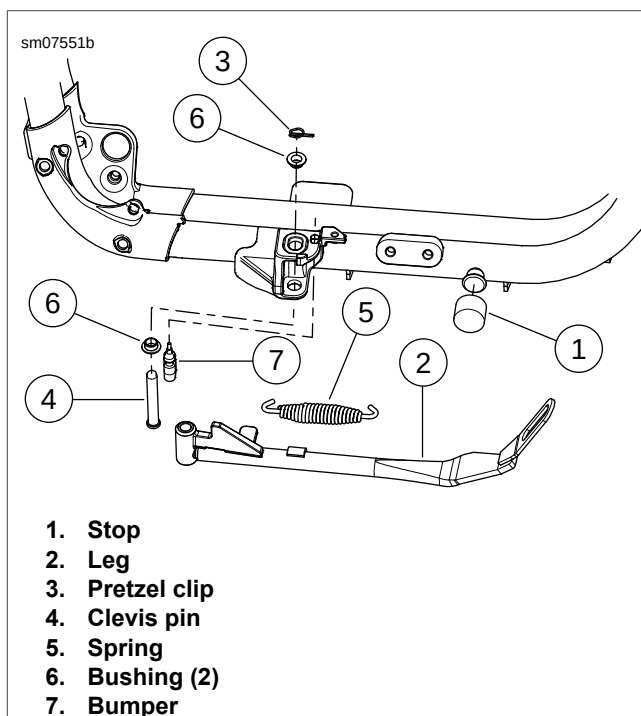

Figure 2-219. Jiffy Stand
2. See Figure 2-219. Remove stop (1).
3. Retract leg (2).
4. Remove pretzel clip (3). Discard pretzel clip.